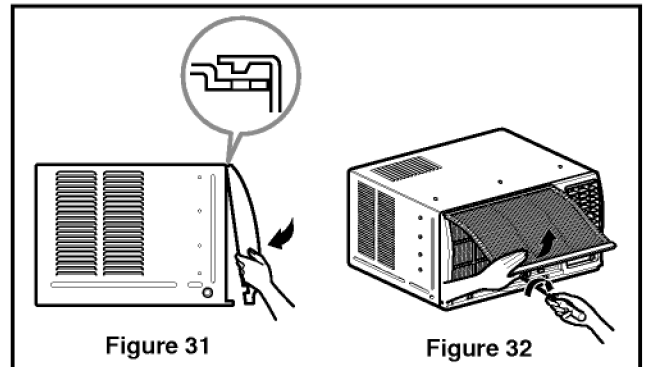

Figure 31
13. Attach the front grille to the cabinet by inserting the tabs on the grille into the tabs on the front of the cabinet. Push the grille in until it snaps into place.(See Fig. 31)